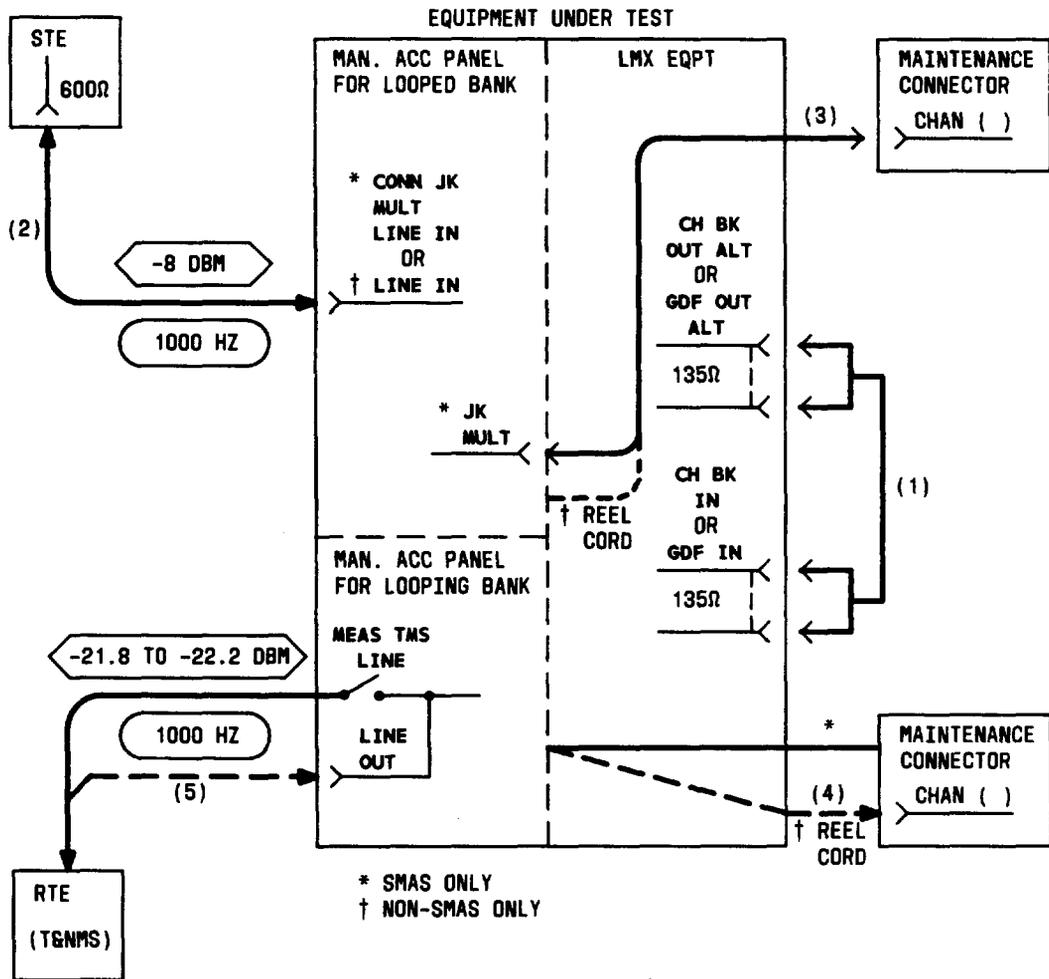

Fig. 22—Patching Diagram—Crosstalk Test—Unequal-Level Looping—Channel Gain Verification (1000 Hz)
3	At the LMX equipment, connect the CH BK OUT ALT (LMX-2) or GDF OUT ALT (LMX-3) jack of the looped bank to the CH BK IN (LMX-2) or GDF IN (LMX-3) jack of the looping bank [patch (1), Fig. 22].
5a*	Connect the STE to the looped -bank CONN JK MULT LINE IN jack (on the 22AR or AT MAP) [patch (2), Fig. 22].
5b†	On an adjacent non-SMAS J98626() frame, connect the STE to the looped -bank LINE IN jack (on the 22AU MAP) [patch (2), Fig. 22].
6a*	Connect the JK MULT connector (on the 22AR or AT MAP) to the CHAN BANK connector (on the maintenance connector) for Channel 1 of the looped channel bank under test [Test A, Table I, and patch (3), Fig. 22]
6b†	On the adjacent non-SMAS J98626() frame, connect the retractable cord (on the 22AU MAP) to the CHAN BANK connector (on the maintenance connector on the frame under test) for Channel 1 of the looped channel bank under test [Test A, Table I, and patch (3), Fig. 22].
- 7b† Connect the retractable cord (on the 22AU MAP) to the CHAN BANK connector for the Channel 1 position for the **looping** bank [Test A, Table I, and patch (4), Fig. 22].
Note: If the T&NMS is not available via the MEAS TMS LINE switch, connect the RTE to the LINE OUT jack [patch (5), Fig. 22].
- 11 Remove patch (3), Fig. 22 [and patch (4), if used] from the maintenance connector(s).